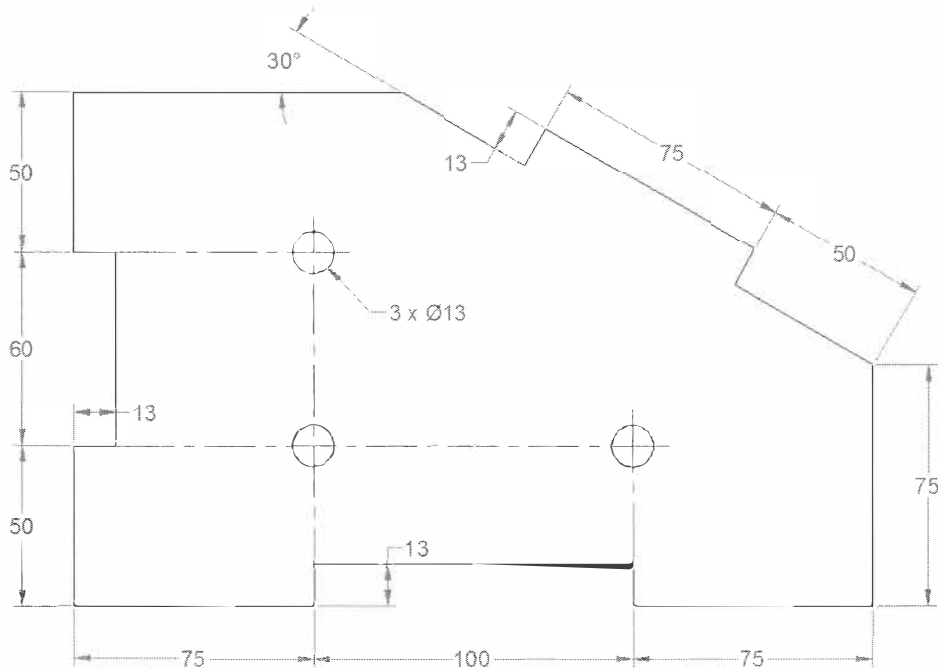

Figure 3–9
In this project, you will use the Drafting Settings tools to help draw a mechanical object, as shown in Figure 3–9.
2. Draw the objects shown in Figure 3–9. Draw only the objects, not the dimensions.